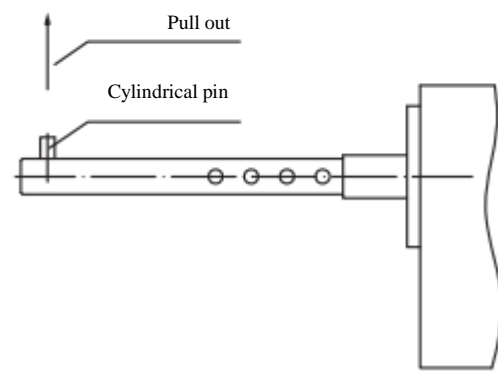

Fig. 23: Diagram
(3) As illustrated in Fig. 23, if the cabinet door interlock (that is, when the disconnecter is closed, the cabinet door cannot be open; when the cabinet door is open, the disconnecter cannot be closed), the black cylindrical pin at the bolt end of the extended shaft is pulled out; if the cabinet door interlock is required, it cannot be pulled out. Insert the extended shaft into the bottom of the hole on the square shaft of the disconnecter, and then tighten the fastening screw of the square shaft of the disconnecter.